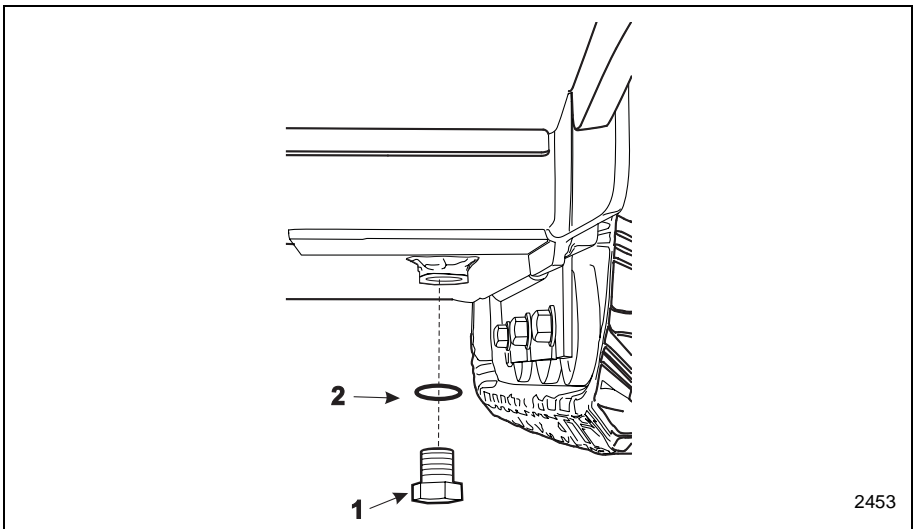

Figure 4-15 Hydraulic Tank Drain Plug
- b. Remove the hydraulic tank drain plug (Item 1, Figure 4-15) and drain all hydraulic fluid from the machine.
Make sure to inspect the O-ring (Item 2, Figure 4-15) on the drain plug. Replace the O-ring if any signs of damage are noted.